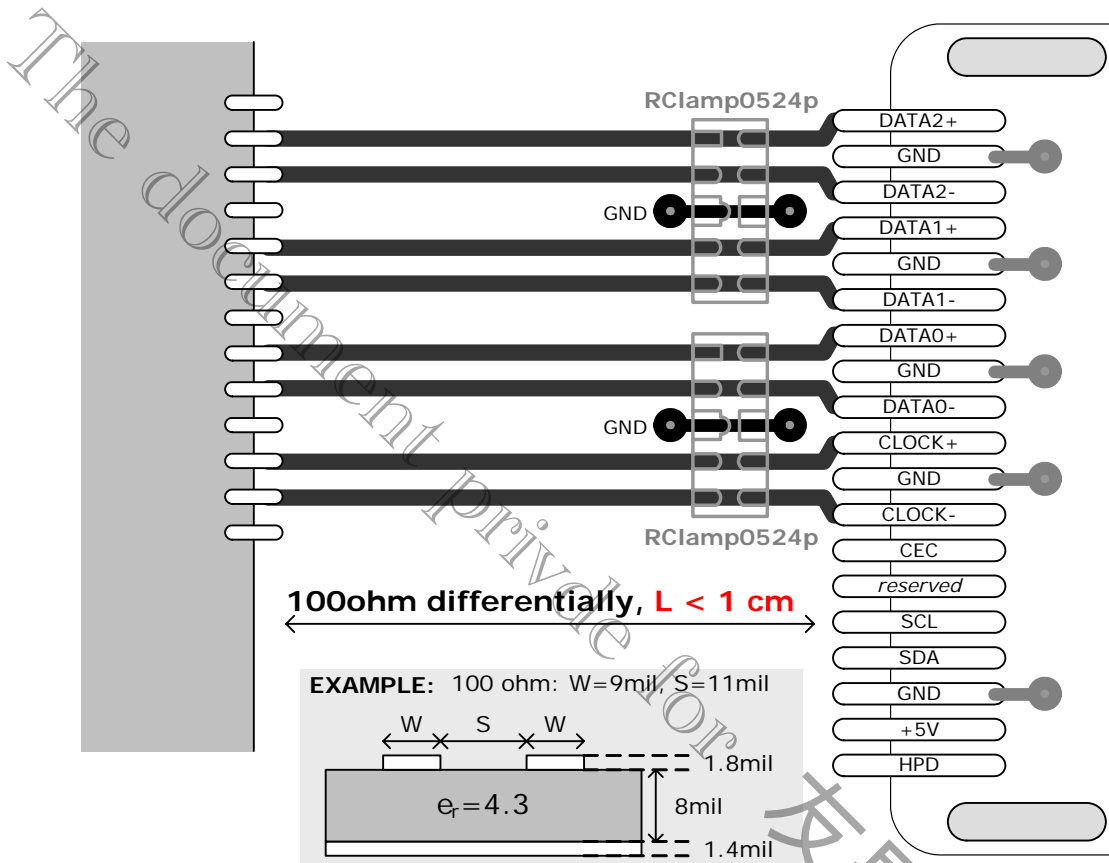

Figure 20. Layout example for high-speed TMDS differential signals
- D. The IT6613 should be placed as close to the HDMI connector as possible. As a rule of thumb, the lengths of the TMDS differential traces (from the TMDS output pins of the IT6613 to the HDMI connector) **should be smaller than 1 cm (refer to Figure 20)**, especially for applications that support TMDS data rates at more than 1.62 Gbps. This is because at such high transmission rates, the source-side reflections would seriously impact the output data eyes. Since PCB traces, even when carefully designed, suffer from large impedance variations, it's a must that the reflection route be kept as short as possible.